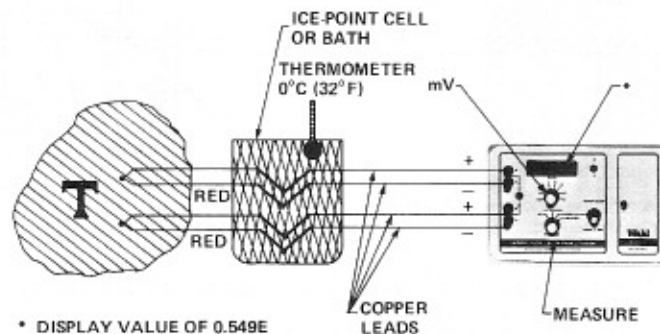

Figure 3-5. Comparing Thermocouple Performance
- (1) Connect each to a pair of binding-post terminals, using the same type of quality grade of thermocouple leads.
- (2) Select the C-65 MEASURE function.
- (3) Select the C-65 RANGE type for the T/C involved.
- (4) Be sure the thermocouple probes are as close together as possible in the heat source. Tight contact of the two probes is a preferable condition, if obtainable.
- (5) Alternately select input terminal pair A and B.
- (6) Read and record the alternate displays. Remember that the C-65 goes into a display test mode with each new selection, before the measured value appears.
- See Figure 3-5.
- (1) Connect the thermocouple leads to copper extension wires. These connections form the reference junction. Immerse the reference junction in an ice bath which is maintained at 0°C (32°F) by using crushed ice and water and stirring thoroughly.